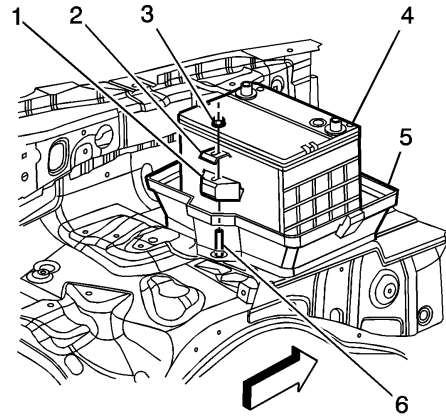

Fig. 3 Battery removal
10. Remove battery retainer nut (3), Fig. 3.
11. Remove battery retainer (1) and washer (2), Fig. 3.
12. Remove battery (4) from lower battery box (5), Fig. 3.
1. Install battery (4) into lower battery box (5), Fig. 3.
2. Install battery retainer (1) and washer (2), Fig. 3.
3. Install battery retainer nut (3), and torque nut to 11 ft. lbs., Fig. 3.